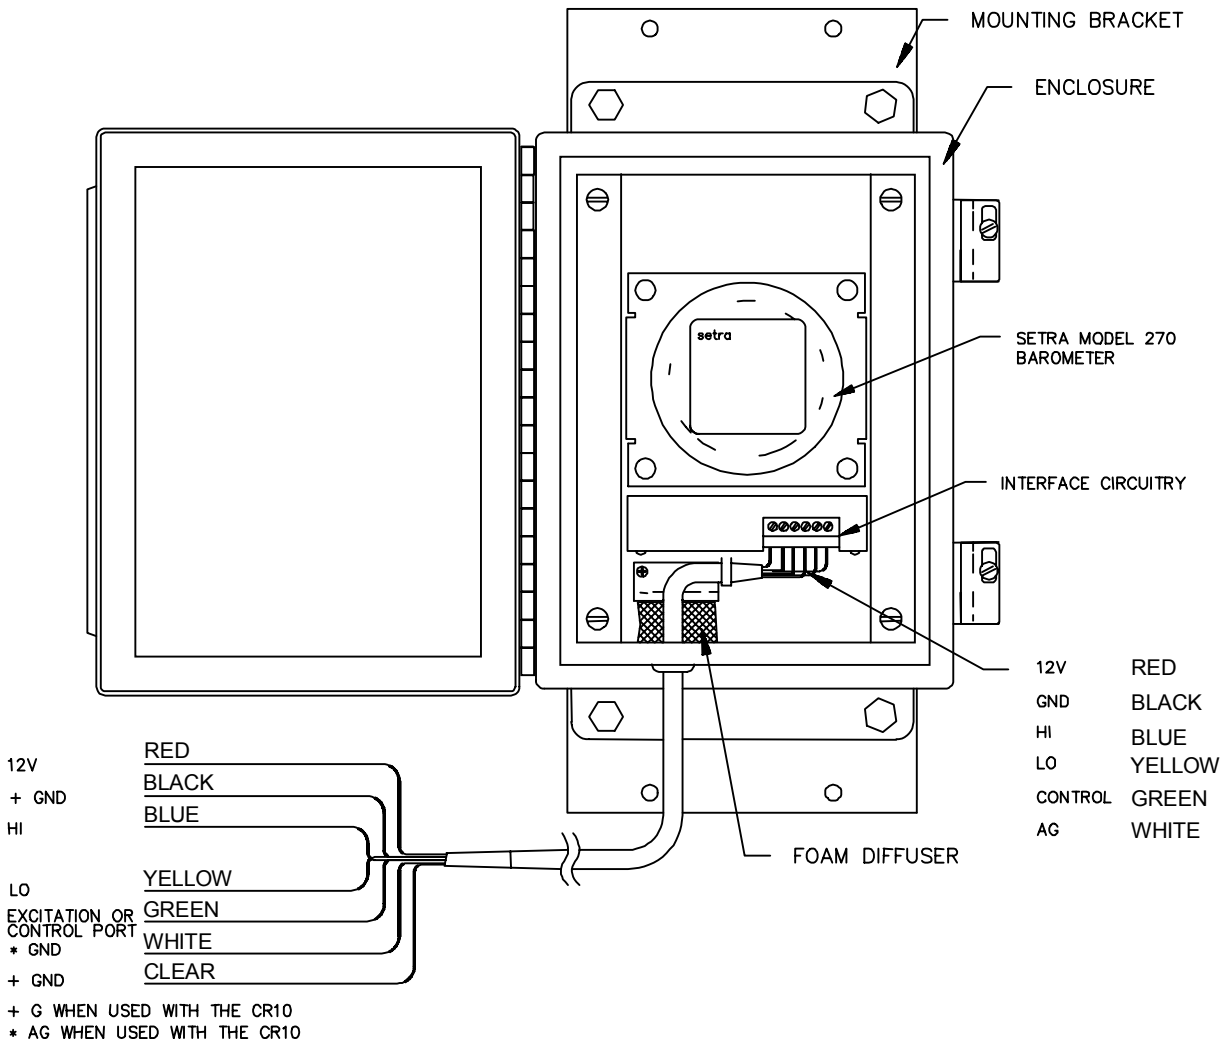

Figure 1. SBP270 Barometric Pressure Sensor
The SBP270 Barometric Pressure Sensor (SBP270) is a high accuracy barometer designed for use with the CR7, 21X, and CR10 dataloggers. Figure 1 shows the SBP270, which includes the Setra Model 270 variable capacitance barometer, interface circuitry, 5 foot cable, and a rain-tight enclosure. Mounting brackets allow the SBP270 to be mounted either to a flat surface, or 1 - 1.5" NPT pipe.
Interface circuitry contained in the SBP270 (Figure 1) has a "control" input which wires to a switched excitation or control port on the datalogger. When the datalogger applies voltage (+1.5 to +5.0 volts) to the "control" input, circuitry is enabled which doubles the 12 volt supply voltage and applies this voltage to the barometer.
A 5 foot cable is included with the SBP270 which connects to the CR7, 21X, or CR10 datalogger. Lead wires are connected to the datalogger as shown in Figure 1. Note that when used with the CR10, the black lead wire (of the white/black pair) connects to an Analog Ground (AG); the other 2 lead wires labeled GND connect to power ground (G).
The SBP270 requires minimal maintenance. The foam diffuser (see Figure 1) should be kept clean and unobstructed. Desiccant packs inside of the enclosure must be replaced as necessary. The desiccant packs can be reactivated by placing in an oven at 250 degrees F for 16 hours, or extra desiccant packs can be ordered from CSI.